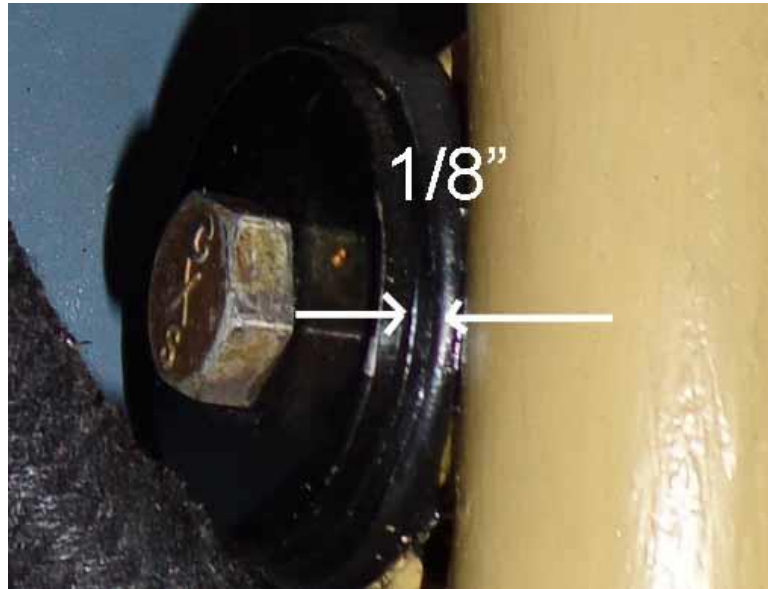

Fig 7.2
- (b) Install new mount rubber cones SA22387 (16)
1. For the R-755A2, Install new AN6-45 mount bolts (8) and AN310-6 Nuts (8) and cotter pins. Tighten the AN310 nuts until there is approximately 1/8 in between the large washer under the head of the bolt and the edge of the mount rubber cup (see Fig. 7.2) and the cotter pin hole in the bolt aligns with a castellation in the nut. Install the cotter pin.
2. For the R-755B2, Install new An6-35 mount bolts (8) and AN310-6 Nuts (8) and cotter pins. Tighten the AN310 nuts until there is approximately 1/8 in between the large washer under the head of the bolt and the edge of the mount rubber cup (see Fig. 7.2) and the cotter pin hole in the bolt aligns with a castellation in the nut. Install the cotter pin.